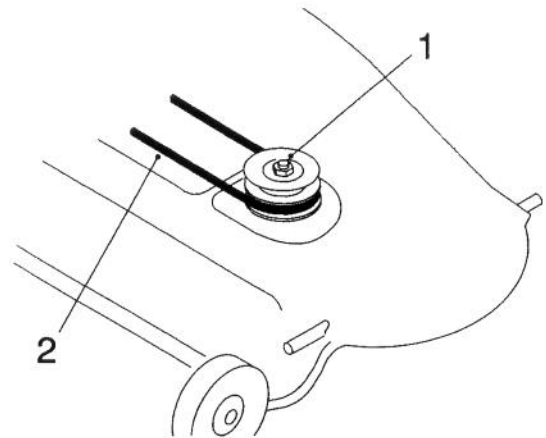

Figure 10
4. Screw the new pulley onto the pulley shaft making sure the hex-head nut side is facing up. Tighten the nut to 60-80 ft-lb. (Fig. 10).